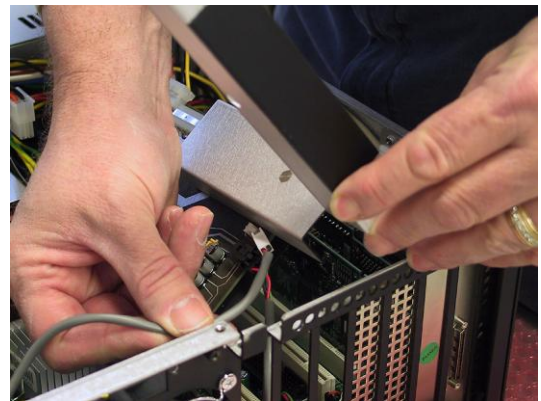

**Figure 5-58**
- 9) Disconnect the right speaker cable from the power distribution board as illustrated in Figures 5-58 and 5-59.